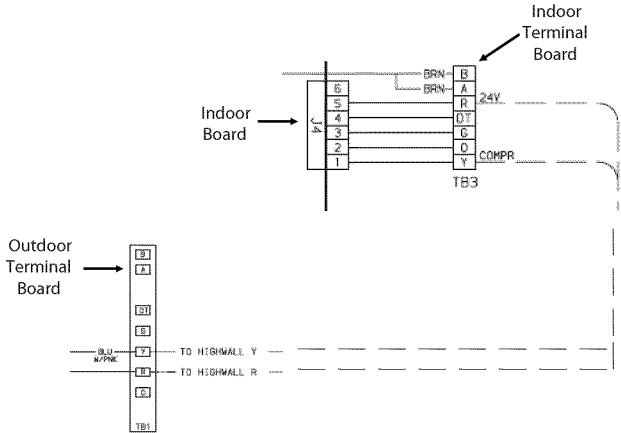
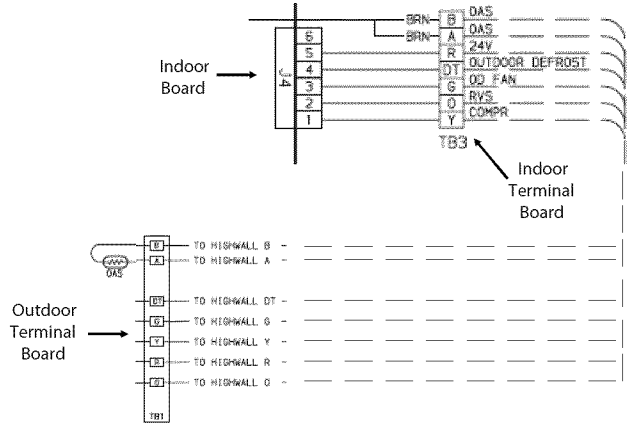

Fig. 19 - 38HDF Control Terminal Strip
Fig. 20 - 38QRF Control Terminal Strip
2. Route one end of the control wiring through the opening provided in the unit side panel and connect to the control terminal strip using either Fig. 19 for 38HDF units and Fig. 20 for 38QRF units.